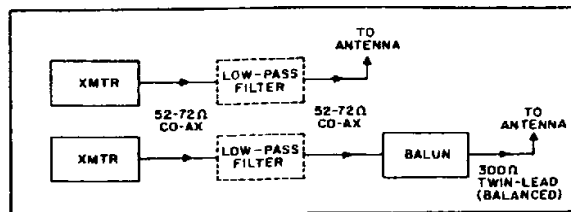

FIGURE 1
- Connect the antenna feed line co-axial cable to the RF output co-axial receptacle on the rear chassis apron. An Amphenol 83-1SP type or equivalent male connector is required for this connection. If a single wire or twin lead is employed, attach a banana plug to the end of the single wire or one conductor of the twin lead and insert it in the center hole of the receptacle. (The remaining conductor of the twin lead should be connected to the adjacent ground binding post). In areas where interference with TV reception is a difficulty, it is recommended that a low-pass filter and possibly an antenna coupler be inserted between the RF transmitter and the antenna feed line. A short length of co-axial cable should be used to connect the transmitter RF output to the input end of the filter and the antenna feed line co-ax should be connected to the output of the filter. A balanced type of feed line (300Ω, 600Ω, etc.) requires an antenna coupler or balun matching device for proper connection to the transmitter or low-pass filter. (See Fig. 1.) For satisfactory use of a low-pass filter, a low SWR is necessary.